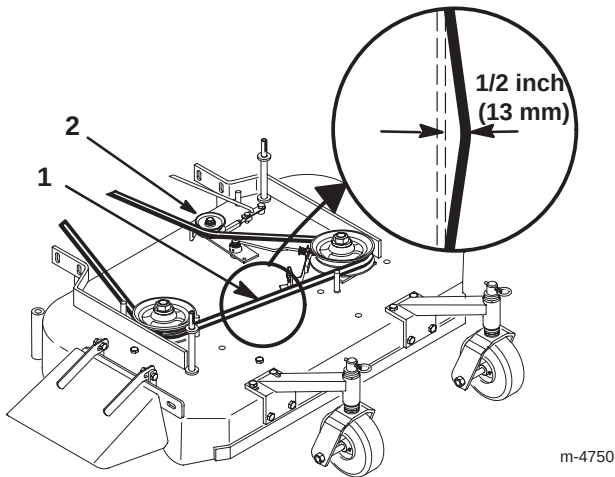

Figure 57
4. Remove the idler pulley and the worn belt (Fig. 57).
Note: The proper mower belt tension is 10–15 lbf. (44–67 N) with the belt deflected 1/2 inch (13 mm) halfway between the pulleys (Fig. 57).